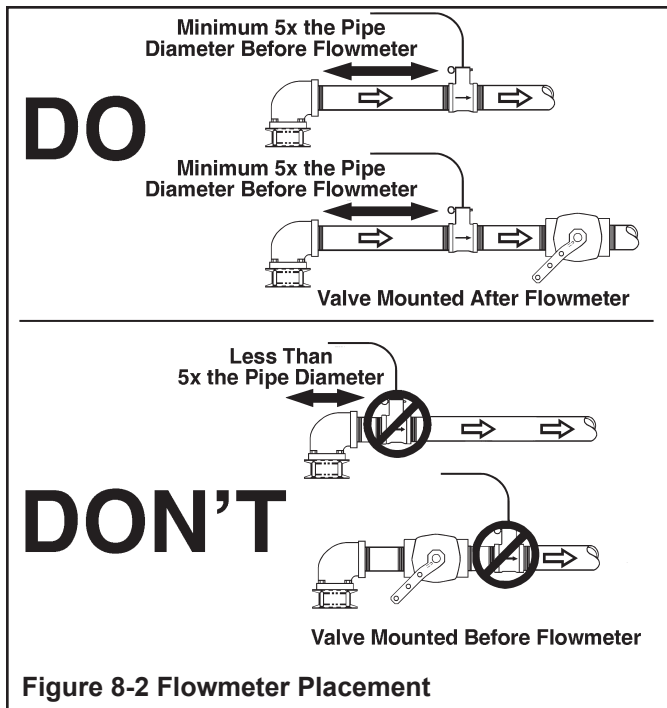

Figure 8-2 Flowmeter Placement
3. **Do not mount a flowmeter directly after an elbow or valve.** Valves create severe turbulence when they are "gated down" as shown in Figure 8-2.